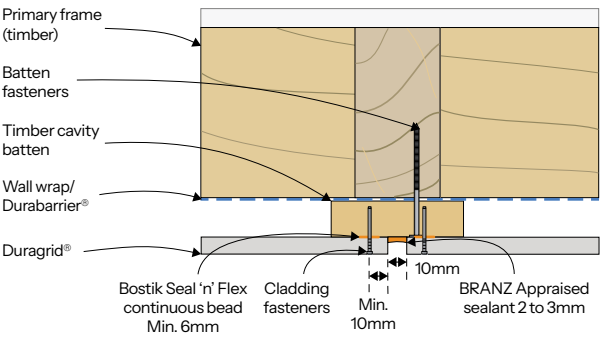

Figure 6 Vertical expressed joint detail - Timber batten Plan
-  Refer to Figure 6 for detailed installation information